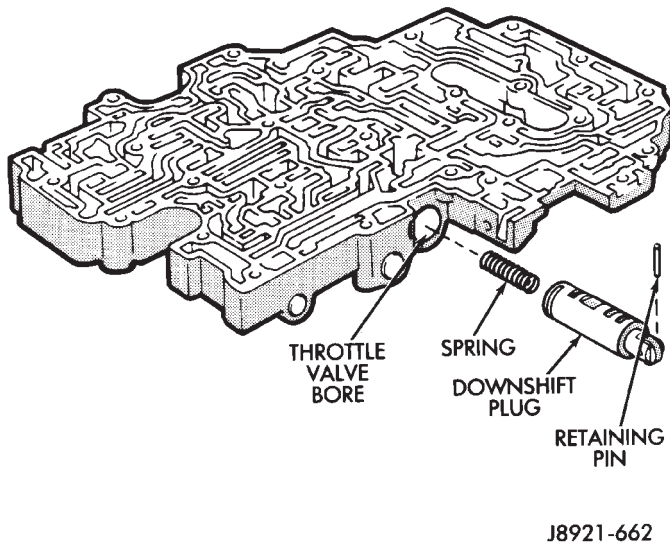

Fig. 19 Installing Downshift Plug
(14) Install downshift spring and plug in throttle valve bore. Press plug inward against throttle valve and spring and install retainer pin (Fig. 19).